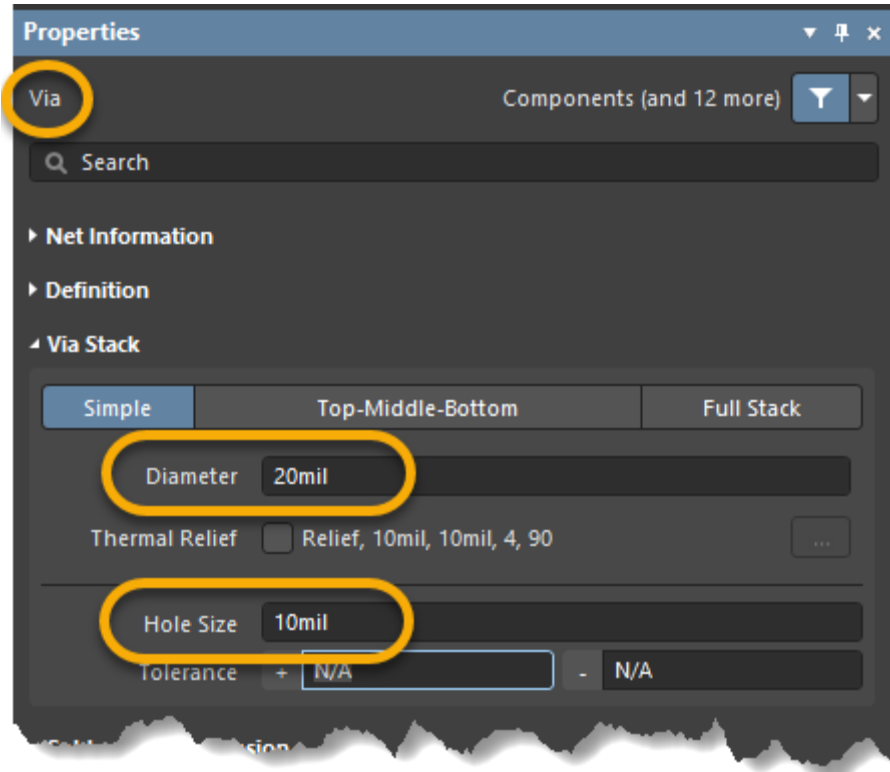

Figure 11. Properties panel with the new values for Via Diameter and Hole Size
35. In the *Properties* panel, as shown in Figure 11 below: